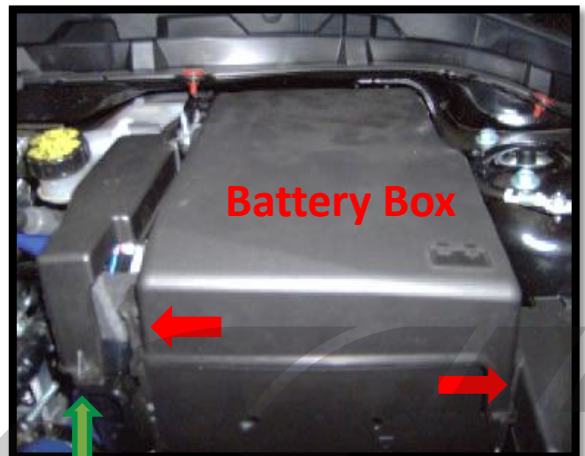

Figure 2a
- a) Remove the battery box cover. The cover is held on with two clips (shown with **red arrows** in **Figure 2a**). Pry the clips outward by hand and lift the front of the lid off of the box. The **green arrow** in **Figure 2a** shows the location of the ECU.